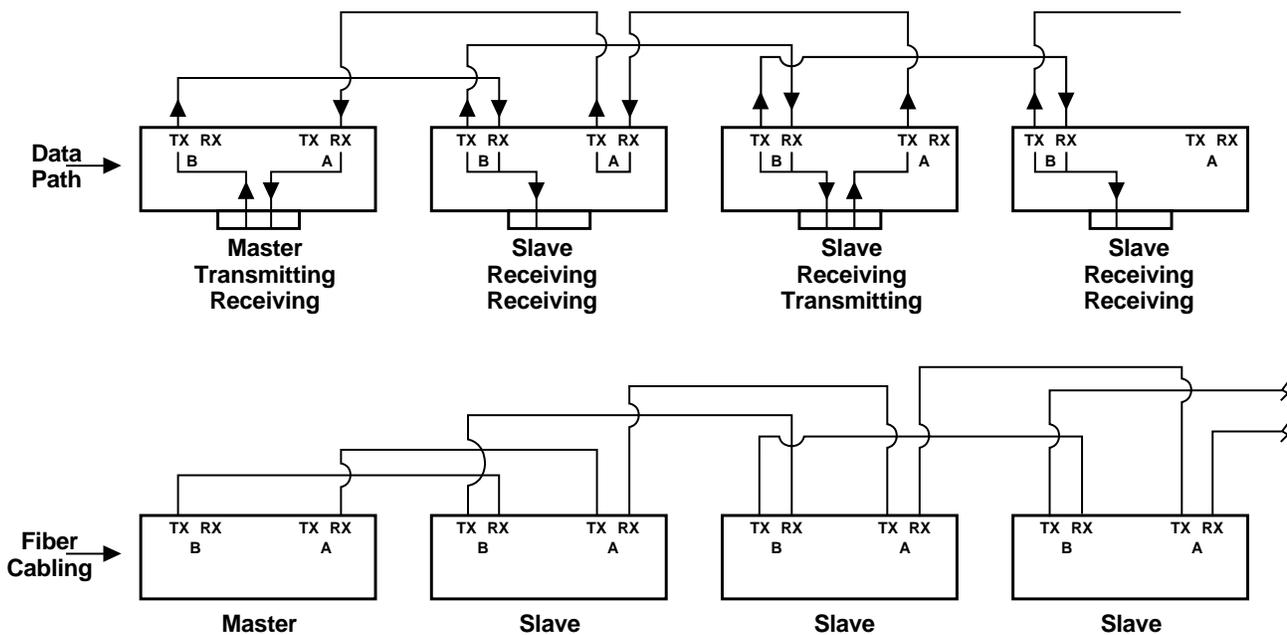

Figure 3-2. One unit configured as a master, all others as slaves.
When the master sends data to the transmitter (TX) of the RS-232 DB9, the 20-mA current loop, or the RS-485 terminal block, the data is passed through to the master's B optical port. From there, it is daisychained to each slave's B optical RX. As each slave receives the data, it is passed through to the DB9 RX and the receive (RX) terminal block. When the data reaches the slave that needs to respond, it will send data to the optical A TX port and out to the next daisychained slave in the direction of the master. The information is retransmitted and travels from daisychained slave to slave in the direction of the master until it reaches the master's Port A. Figure 3-2 illustrates this configuration.